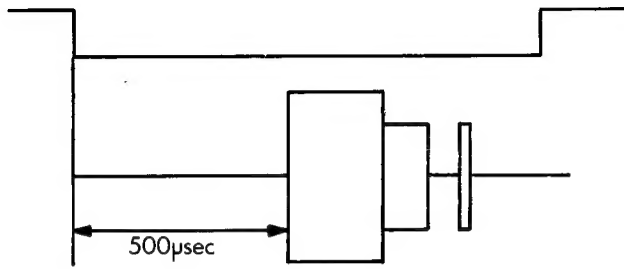

Fig. 5-1 Index burst waveform
When the timing is not within this range, proceed with the following adjustment. (Refer to Fig. 5-1).
- Adjust VR201 so Index frequency is  $200 \pm 2\text{ms}$  (See Fig. 5-1).